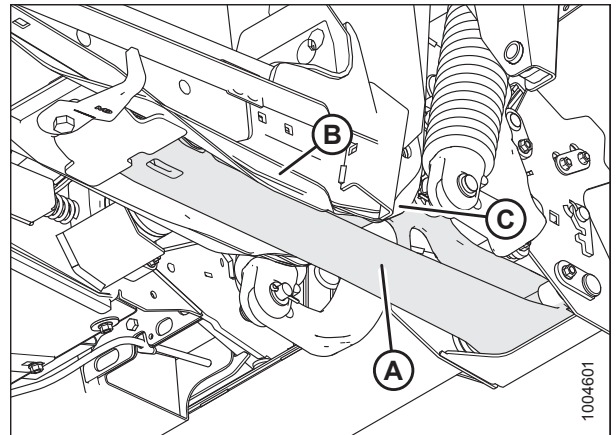

Figure 4.142: Float Module Underside
6. Continue forward until float module arms (A) contact stops in balance channels (B) in Figure 4.142, page 315.
7. Adjust the length of the center-link (A) using the header angle hydraulics to approximately align the center-link eye (B) with the hole in the header bracket.